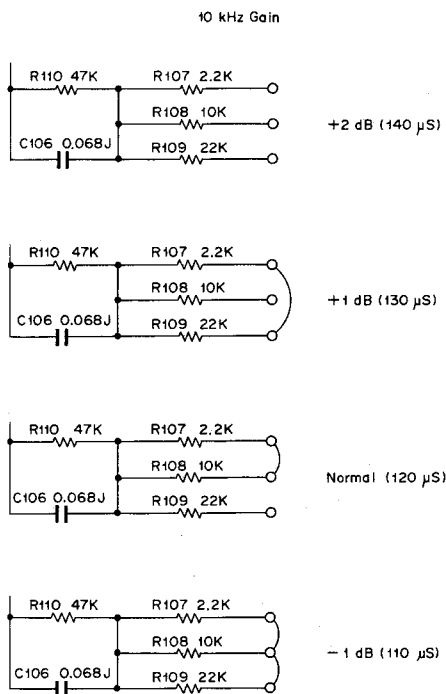
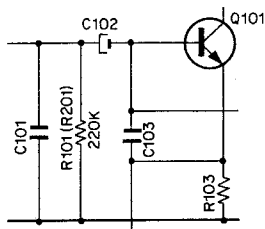

Fig. 7.18 Playback Equalizer Adjustment
Fig. 7.19 PB Head Amp. Peaking Compensation
- (1) Open 22 k $\Omega$  of R109,209 of the PB Head Amp. P.C.B. (EQ and time constant shall show 120  $\mu$ s).
- (2) Load a 400 Hz Level Tape (DA09005A) to playback, and turn the output level controls till the indication of the VTVM shows 0 dB (for example) or easy reference of value.
- (3) Load a 10 kHz PB Frequency Response Tape (DA09003A) and play it back.
- (4) Check the output of 10 kHz and then, referring to Fig. 7.18, adjust EQ in the range of 110  $\mu$ s – 140  $\mu$ s, the result of which shall be 0 to + 3 dB.
- (5) Load a 15 kHz PB Frequency Response Tape (DA09002A) and play it back.
- (6) If the output of 15 kHz shows the value within  $\pm$  2 dB against 400 Hz Level Tape, it is considered satisfactory.
- (7) Load a 20 kHz PB Frequency Response Tape (DA09001A) and play it back.
- (8) If 15 kHz at (5) shows the value within  $\pm$  2 dB and 20 kHz being less than -3 dB, replace the playback head.
- (9) Adjustment shall be made so that the level at 10 kHz, 15 kHz and 20 kHz will become flat when compared with 400 Hz.
(10) If the results are shown to belong to high, set R101,201 to open – 100 k $\Omega$ . Refer to Fig. 7.19.
(11) Adjust the azimuth alignment to the maximum output with a 15 kHz Azimuth Tape (DA09004A).